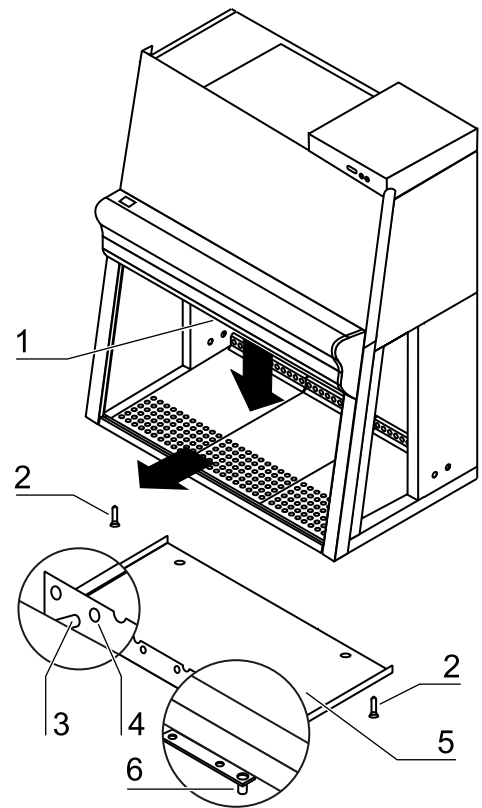

Fig.18,
1. **Fig. 18:** Remove the two screws [2], tilt the perforated panel [5] slightly, disengage its front end from the locating pins [3] and remove the panel.
4. **Fig. 18:** Two tabs [1] secure the plenum bezel [4] to two threaded sleeves [3] at the upper edge of the device frame. Remove the screws, then remove the bezel.